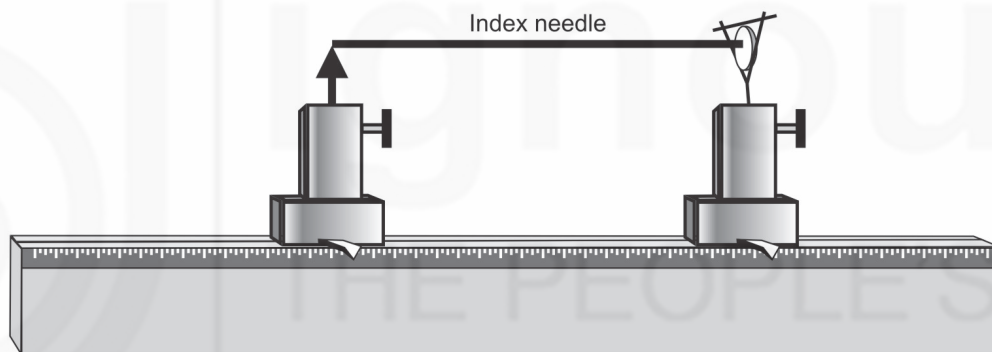

Fig. 6.2: Observing index error on a optical bench.
In most of the experiments in a physics laboratory with mirrors and lenses, we first set up an axis along which we place the various optical elements such as the mirror/lens, pin (which acts as object) and a screen to obtain the image. The centres of all these elements must be along the same horizontal line. To ensure this condition, we use an **optical bench** (Fig.6.2). You know from Unit 5 of CLT-104 course that an optical bench consists of two horizontal metallic beams which carries uprights for holding lenses/mirrors and object/image pins, etc. A scale is also attached to the beam(s) which is used to determine the distance of the object and the image from the mirror/lens.
You may ask: **How to ascertain whether or not the optical bench has index error?** To do that, take a thin straight needle of about 15 to 20 cm length. Hold it from the middle in your hand such that its one end touches the tip of the pin and the other end touches the centre of the mirror/lens (Fig. 6.2). Read the positions of the markings at the base of the corresponding uprights on the scale and calculate the distance between the tip and pole of the lens. Measure the length of the needle with a metre scale. If there is a difference between the two measurements, there is index error in the optical
- In all optical bench experiments, you should always ensure that the optical axis is parallel to the bench. The mirror/lens and pins should all be in a plane which is at right angle to the optical axis. Adjust the heights of uprights such that the tips of pins and the pole of mirror/optical centre of the lens lie along the same line (Fig. 6.2). **This line must always remain parallel to the horizontal beams of the optical bench irrespective of the positions of the pins and mirror/lens.**